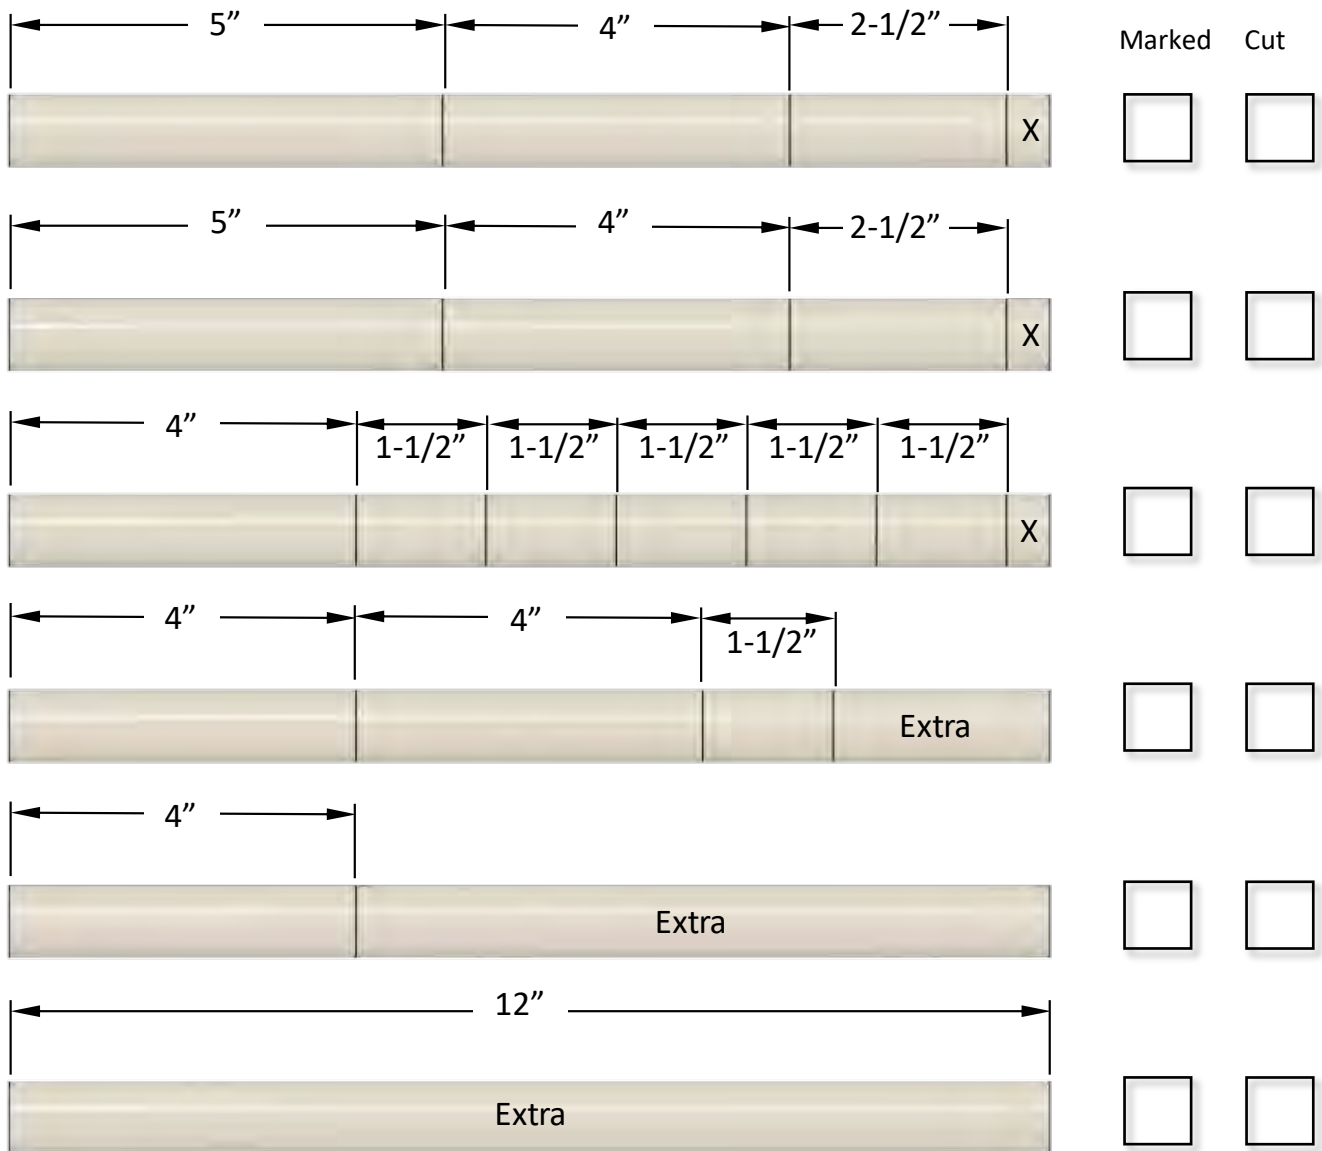

Figure 6
- ❑ Using the Pipe List and Cutting Guide (Figure 6 on next page), precisely measure and mark the PVC pipes. Use the checkboxes to keep track of which pieces have been marked and cut.